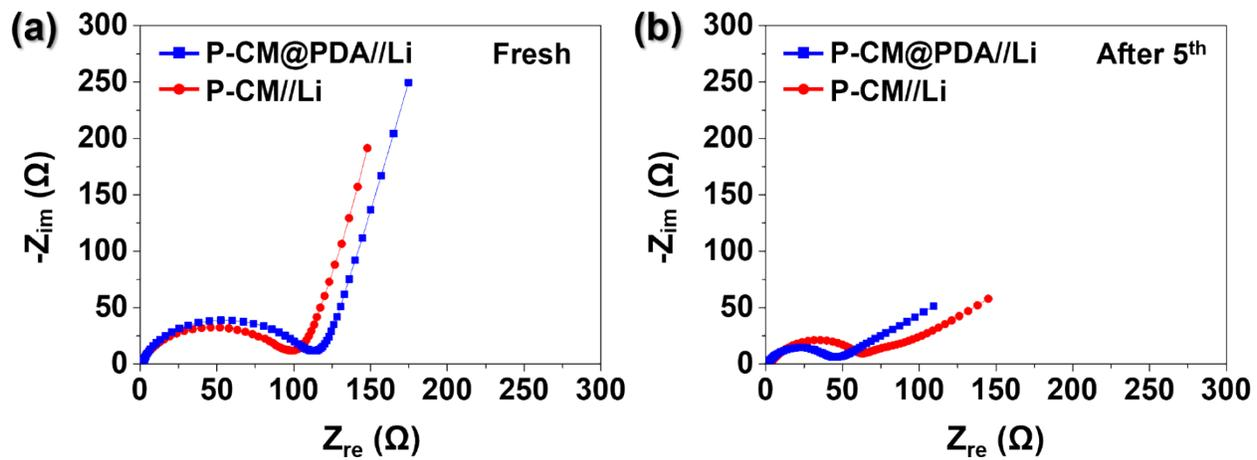

Figure S5 Nyquist plots of P-CM/Li and P-CM@PDA/Li asymmetric-cells recorded (a) before cycling and (b) after 5 cycles.
- **Figure S5** (a–c) Galvanostatic charge–discharge (GCD) profiles of full cells assembled with HCS, P-CM, and P-CM@PDA anodes paired with LFP cathodes over extended cycling. (d) Nyquist plots after 55 cycles.